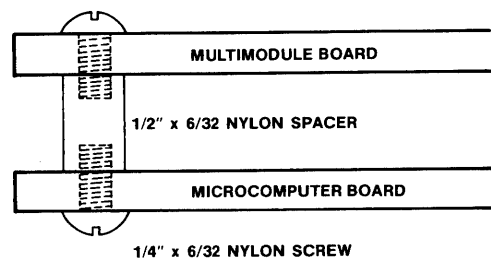
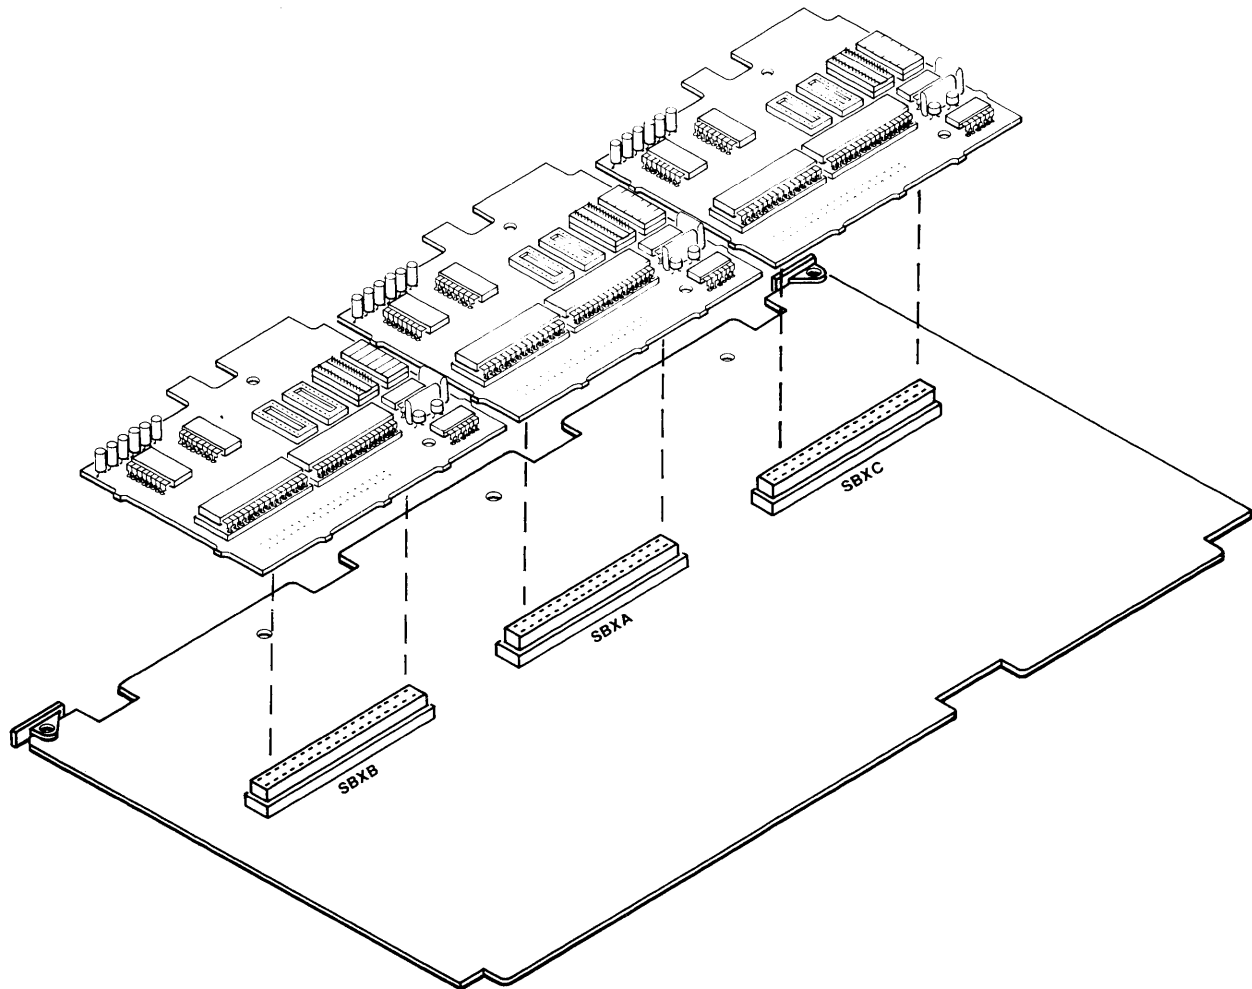

Figure 2-8. Spacer Mounting Technique
Figure 2-9. iSBX Multimodule Boards Orientation
1. With a nylon 1/4 inch x 6/32 screw, secure the 1/2 inch spacer (figure 2-8) to the iSBX 88/40 board in the mounting hole for the Multimodule board being installed. (Refer to figure 2-9 for hole location.) If installing a double wide Multimodule board, two spacers will have to be mounted (refer to figure 2-9).
5. Secure the Multimodule board to the top of the spacer with the other 1/4 inch x 6/32 nylon screw. (Refer to figure 2-8.)